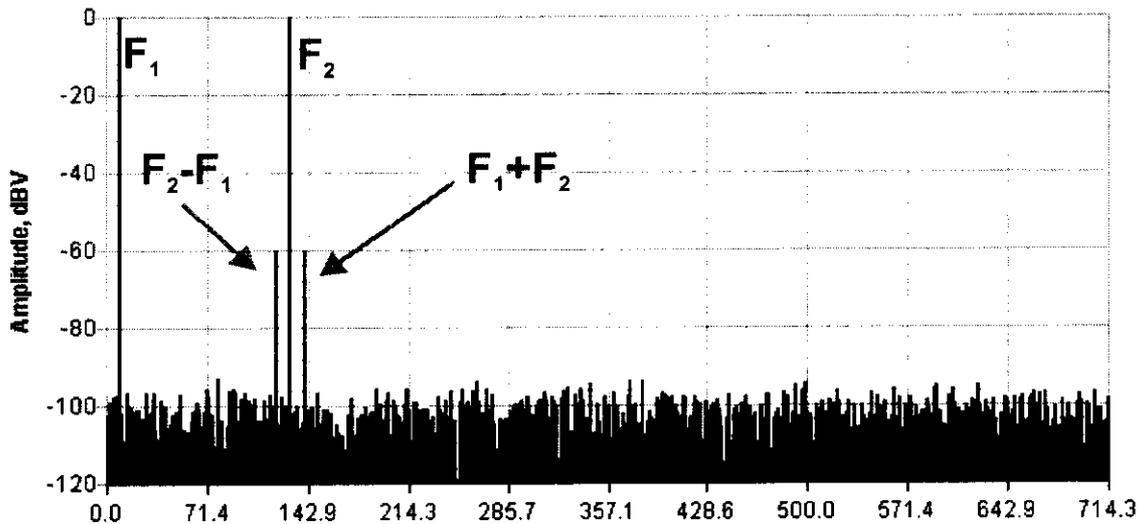

Figure 7.3: Intermodulation Distortion. This figure illustrates second order IM (sum and difference tones).
Intermodulation Distortion (IM) is performed by supplying a DAC with a digital representation of a signal that contains two frequency components. The two frequencies and any intermodulation distortion (heterodyning) will appear on the output of the DAC. Testing for IM is a technique which highlights distortion caused by device non-linearity. This is graphically illustrated in Figure 7.3.